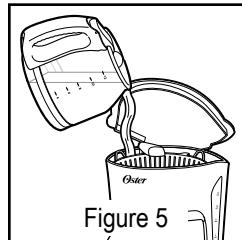

Figure 5
5. Fill the water reservoir with the desired amount of tap water. See Figure 5.